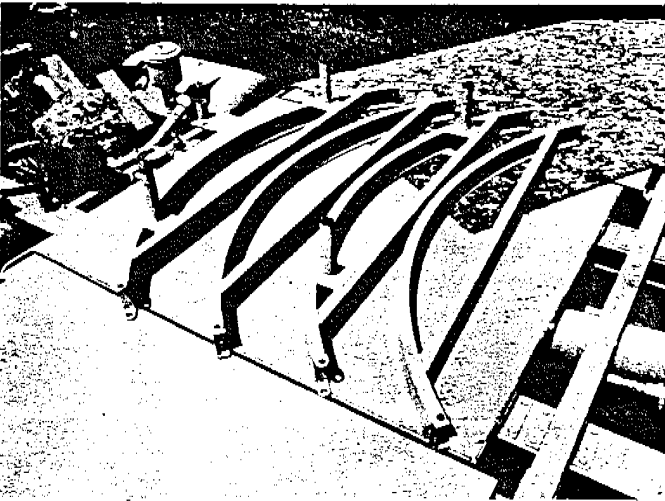

Fig. 34
b. Remove the track from the storage sockets and have them ready for installation. (Fig. 34)